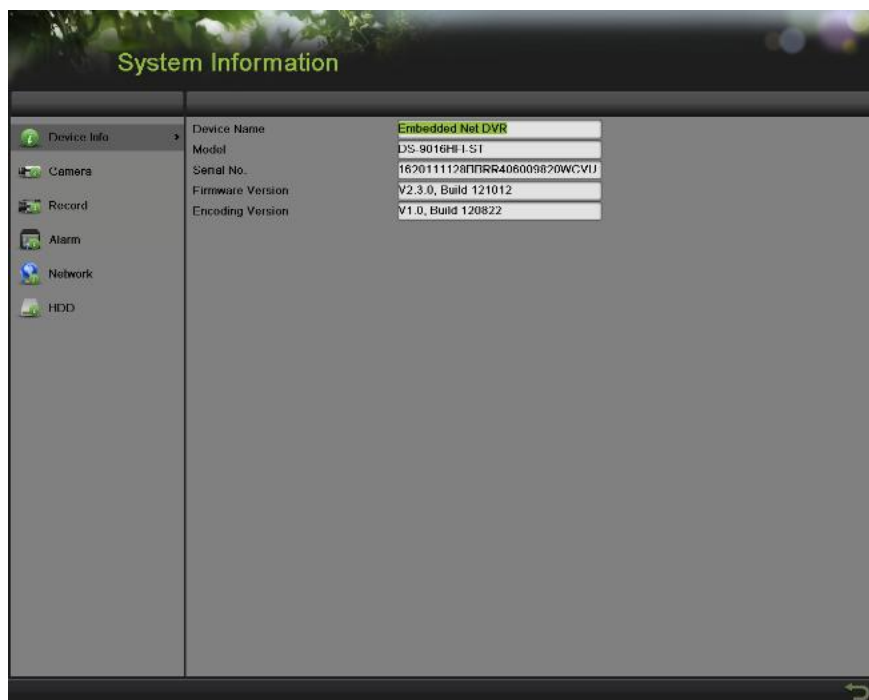

Figure 15 System Information Menu
The current status of your DVR can be checked at anytime by going to the System Information menu. The System Information menu, as shown in Figure 15, can be accessed by going to Menu > System Information.
1. Select the Device Info tab to enter the Device Information menu to view the device name, model, serial No., firmware version and encode version, as shown in Figure 15.